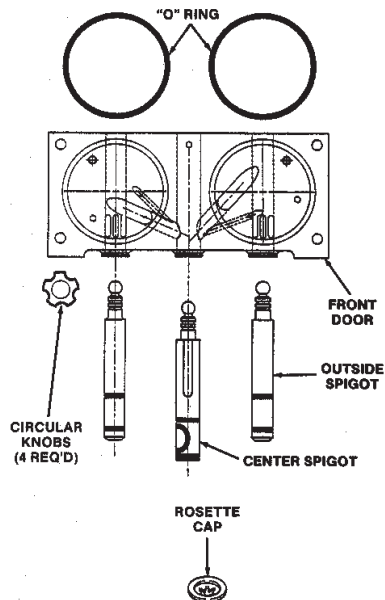

Figure 22. Removing Spigot
- C. Remove rosette cap. Push the spigot body through the bottom of the front door and remove the spigot body (Fig. 22).